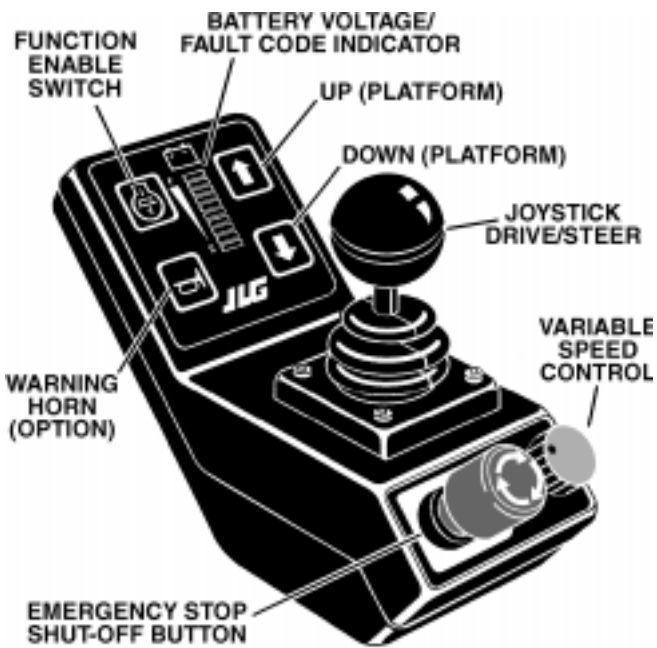

Figure 3-2. Platform Controller. (OLD STYLE)
(See Figure 3-2. & 3-3.)
2. FUNCTION ENABLE SWITCH (OLD STYLE) (Fig. 3-2)